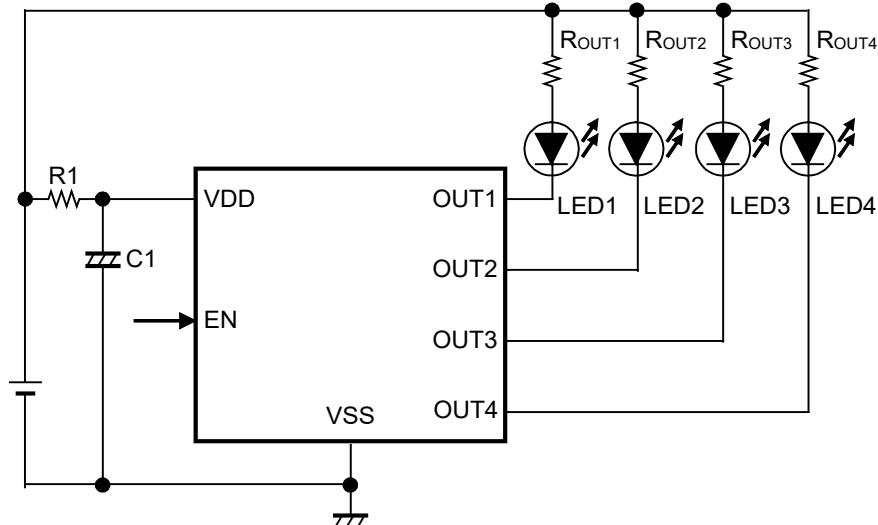

Figure 11
Refer to the circuit diagram in **Figure 11** for the circuit connection example.
- In applications where a resistor is connected to the input (refer to **Figure 11** in "■ Application Circuit"), the feed-through current which is generated when the output switches causes a voltage drop equal to feed-through current  $\times$  input resistance. After the output switches, the feed-through current stops and its resultant voltage drop disappears, and the output switches. The feed-through current is then generated again, a voltage drop appears. Note that an oscillation may be generated for this reason.